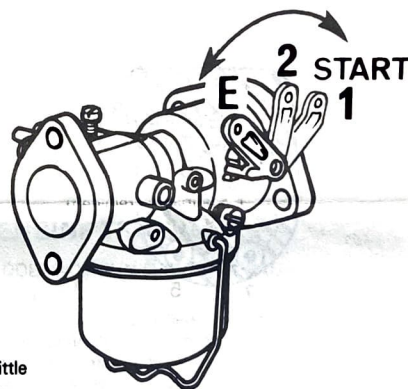

Fig. 2
Put choke lever in start position (Fig. 2)
Put choke lever on working position (E Fig. 2)
5. After starting of a cold engine, the choke lever should be moved to the working position (E, Fig. 2) as soon as the engine is warm.